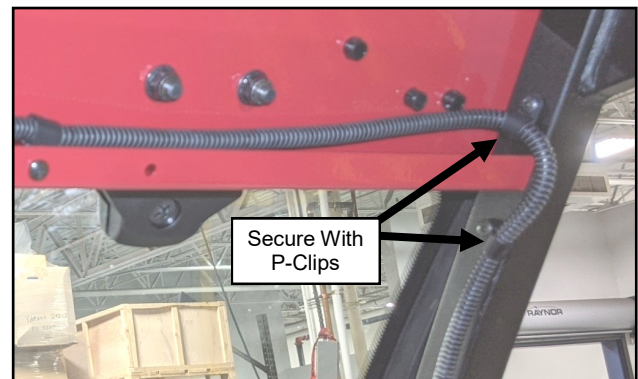

Fig. 15.2 (Secure Harness With P-Clips)
- 15.2 Run the harness along the windshield support and down the side frame. Secure it with (2) more P-clips and hardware. See Figure 15.2. Connect the harness to the heater switch.